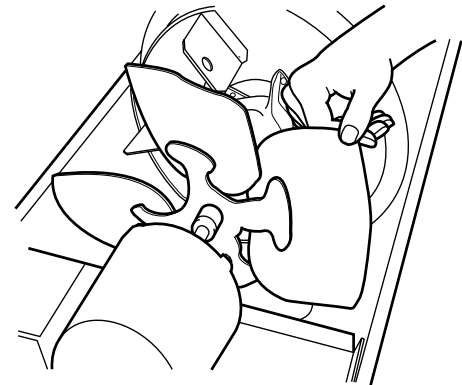

Figure 12 - Turning Fan with Hand
3. Turn fan with hand (see Figure 12).